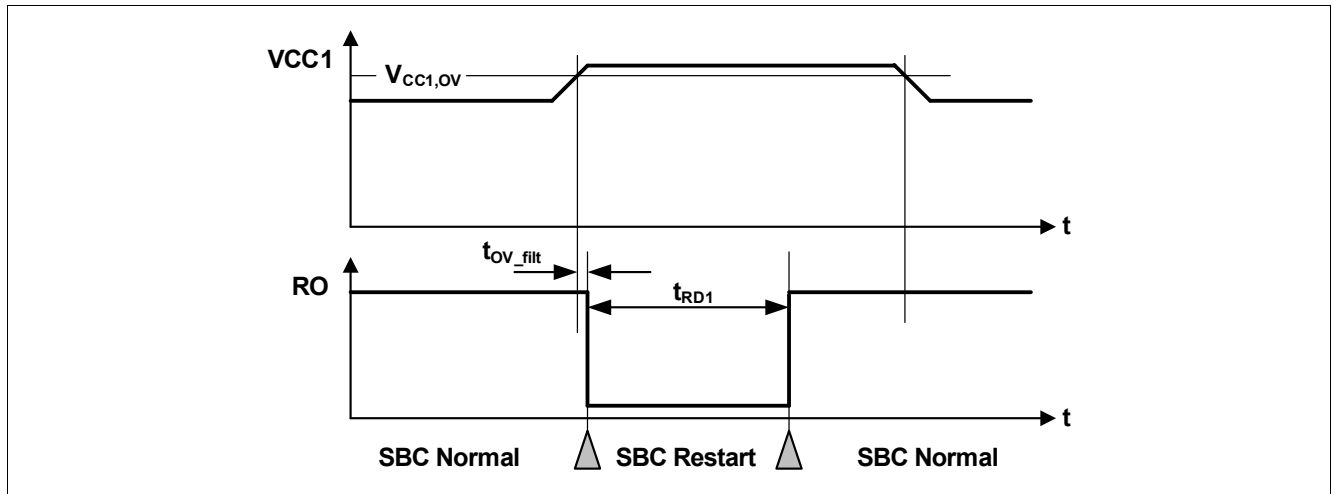

Figure 48 VCC1 Over Voltage Timing Diagram
- If the bit **VCC1_OV_RST** is set and **CFGF** = '1', then SBC Restart Mode is entered. The FOx outputs are activated. After the reset delay time (t_{RD1}), the SBC Restart Mode is left and SBC Normal Mode is resumed even if the VCC1 over voltage event is still present (see also Figure 48). The **VCC1_OV_RST** bit is cleared automatically;